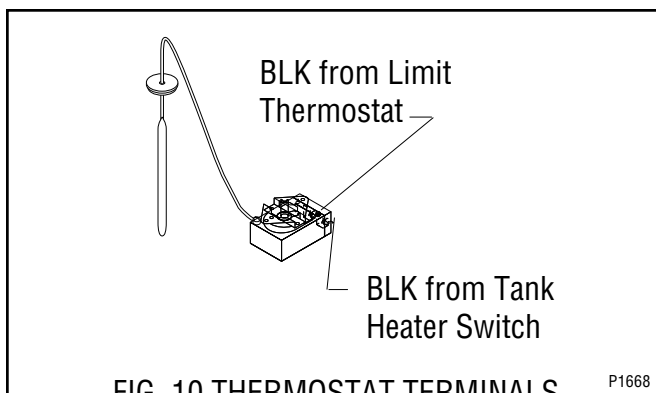

FIG. 10 THERMOSTAT TERMINALS P1668
11. Refer to Fig. 10 and reconnect the wires.